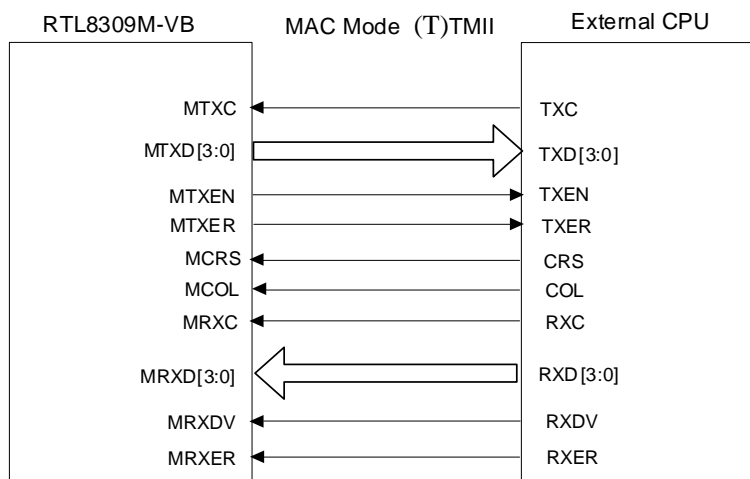

Figure 11. MAC Mode (T)MII Signal Diagram
7.3.5.2 MAC Mode (T)MII
MAC mode (T)MII means (T)MII at the External CPU drives the transmitting and receiving reference clock. Figure 11 shows the signal diagram for MAC mode (T)MII. MTXER/MRXER/MCOL/MCRS are not connected in TMII MAC mode.